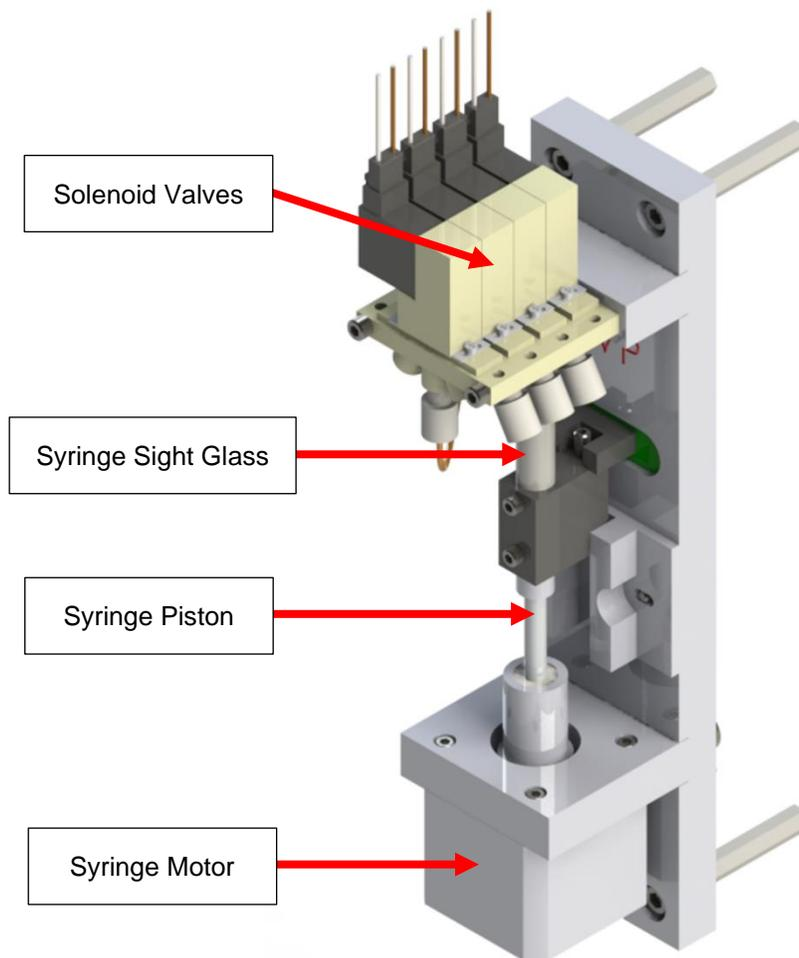

Figure 4-9: Injector System
12. Place the Analyzer Online and observe operation for a few measurement cycles. Pay particular attention to the injector system (see Figure 4-9), watching for bubbles in the sample, smooth piston operation, etc.